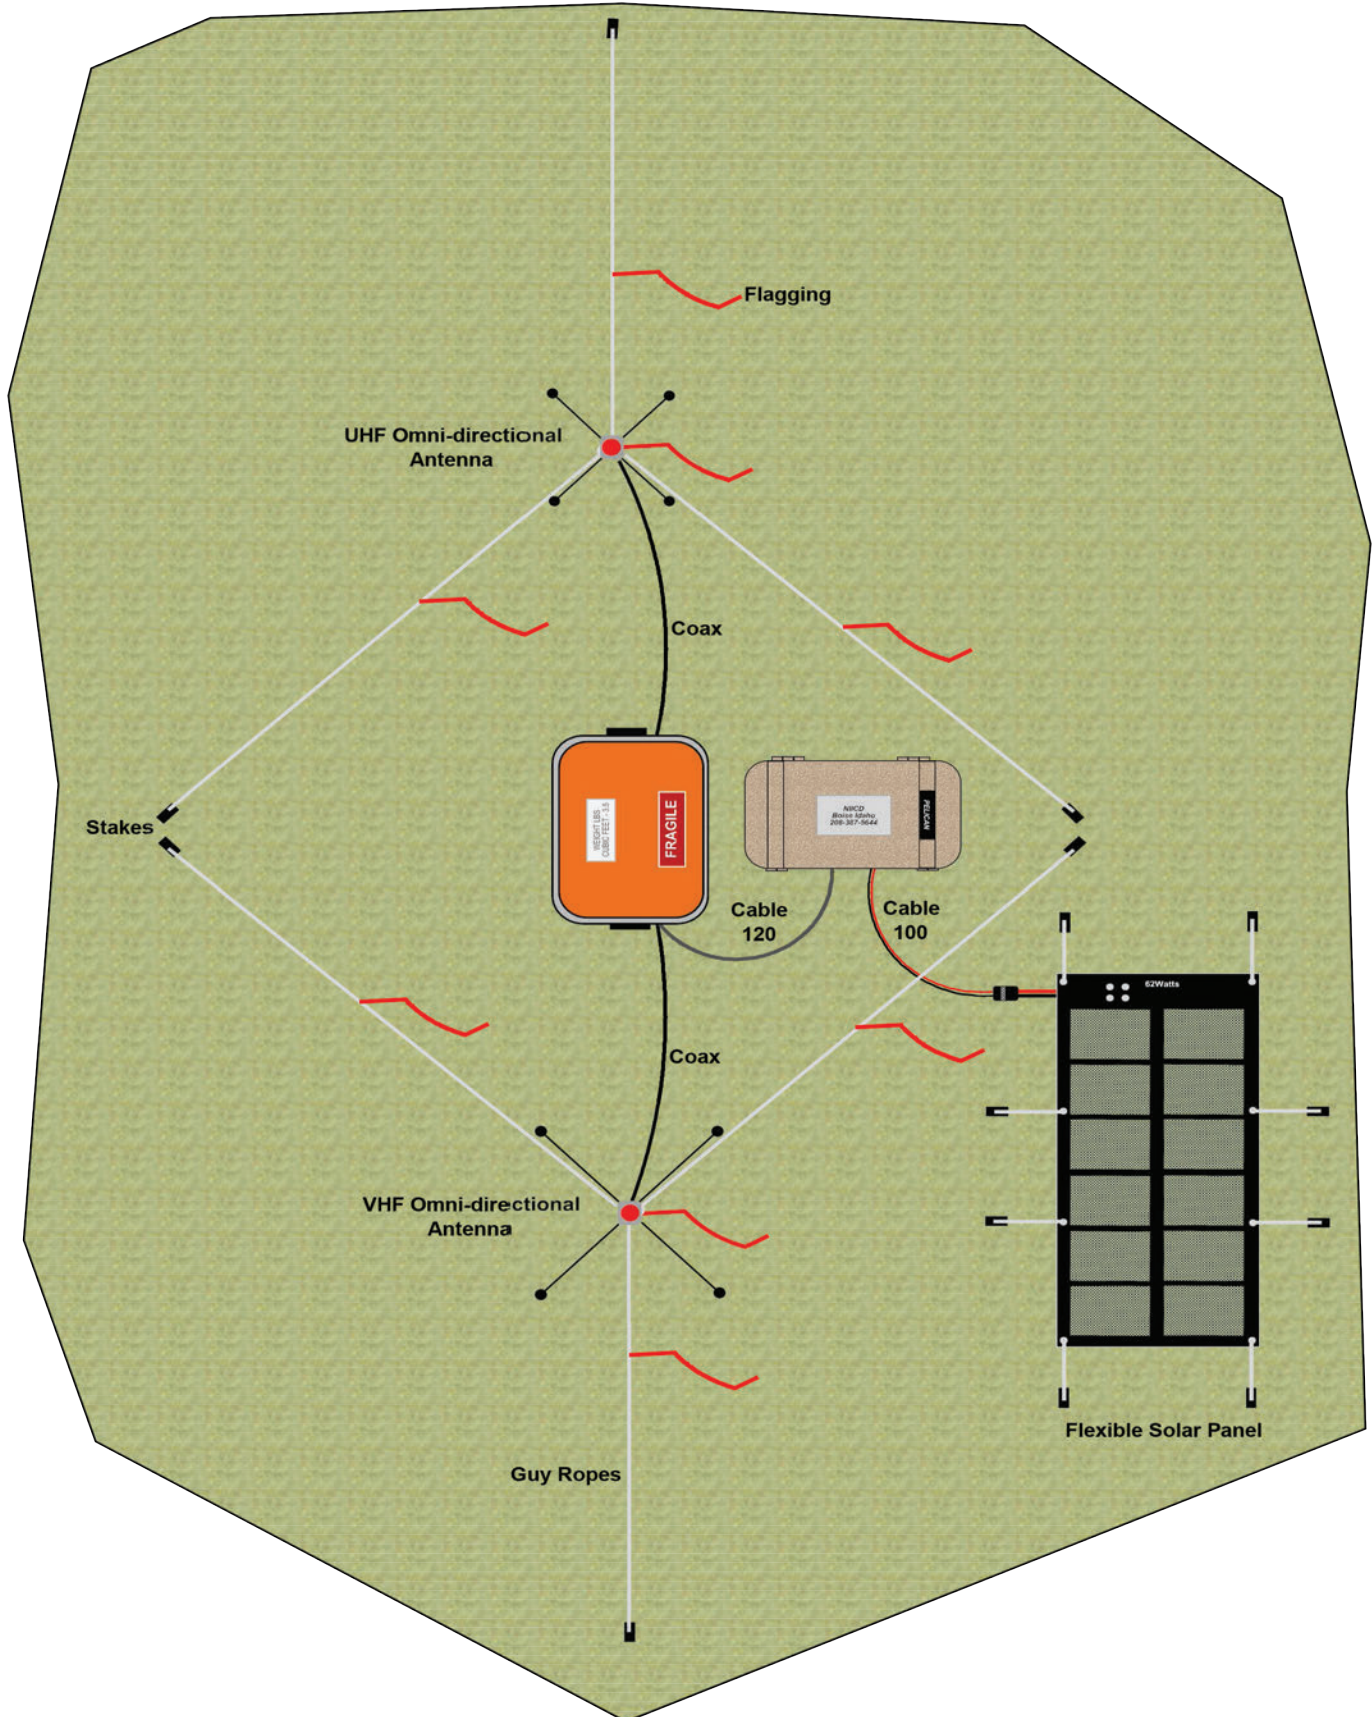

Figure 1: Solar Panel Installation (Overhead View)
1. Battery Supply (See Figure 1)
The battery is configured with a **POLARIZED** interconnect plug. If it becomes necessary to replace batteries, follow the 15 volt battery configuration figure on the following page. (See Figure 1)